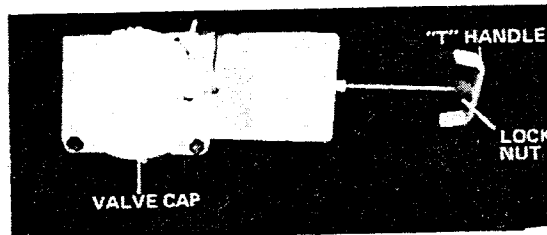
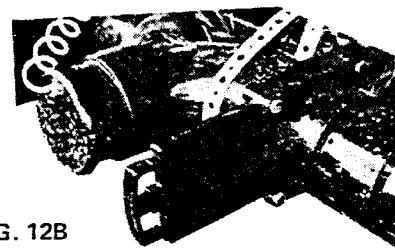

FIG. 12A
FIG. 12B
Remove valve cap from drain outlet (FIG. 12A or B). Connect sewer hose to outlet and the campground's septic sewage system. If a septic system is not available, place a bucket under the outlet. DO NOT drain gray water on the ground. Besides spoiling the natural beauty of the countryside, you may be breaking a local or state ordinance.
**HOLDING TANK DRAINAGE** — Place drainage bucket under the dump valve outlet and remove drain cap (FIG. 12A or B). Connect sewer hose to the outlet and insert the other end into the station's sewage receptacle.
Depending on the type of dump valve used on the unit: either unfasten the dump valve lock nut and pull out the "T" handle (FIG. 12A), or pull out the dump valve handle (FIG. 12B).
Close and lock the dump valve handle: either tighten the lock nut (FIG. 12A), or make sure the handle is completely pushed into the valve locks (FIG. 12B).